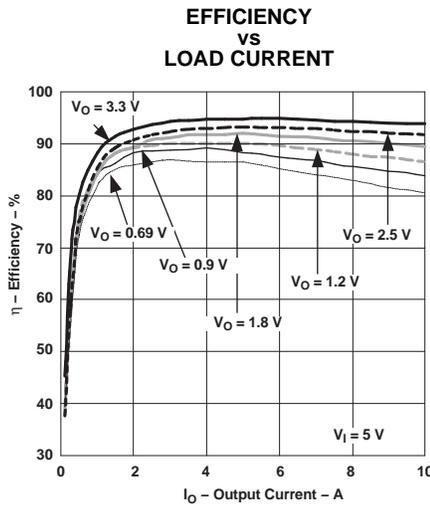
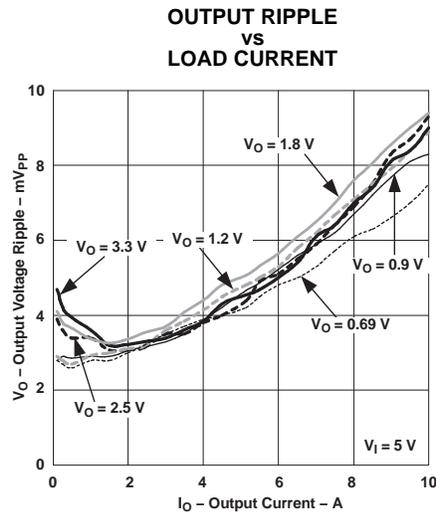
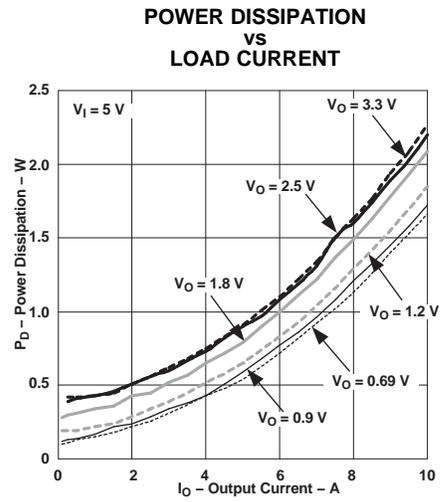

Figure 7.
Figure 8.
Figure 9.
- (1) The electrical characteristic data has been developed from actual products tested at 25C. This data is considered typical for the converter. Applies to Figure 7, Figure 8, and Figure 9.